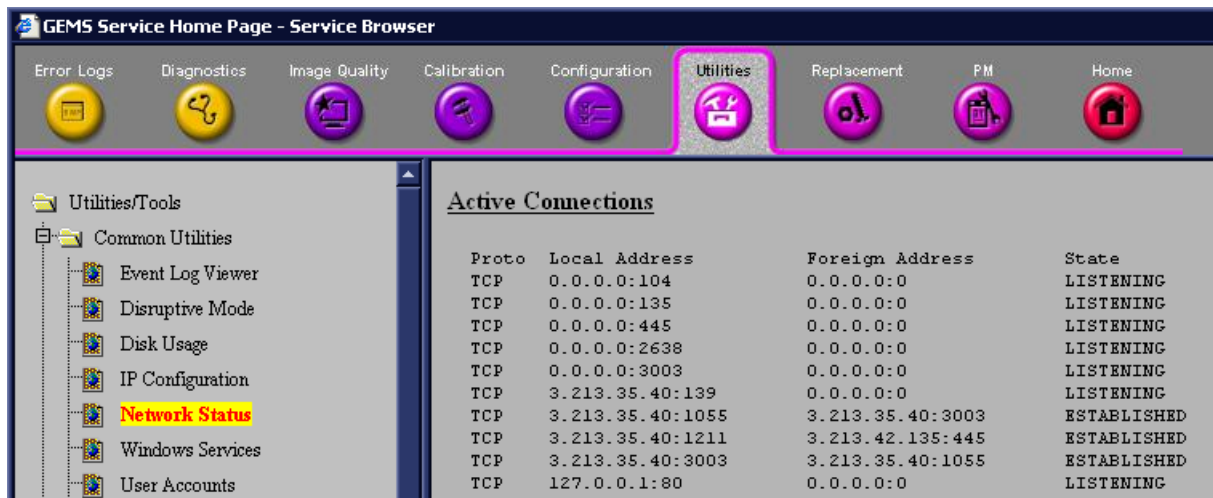

Figure 7-125 Network Status
- **Network Status** - displays information concerning the system's communication with the network - see Figure 7-125.